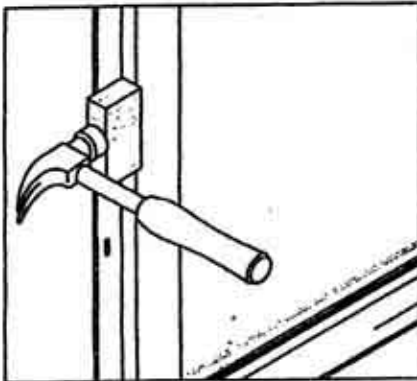
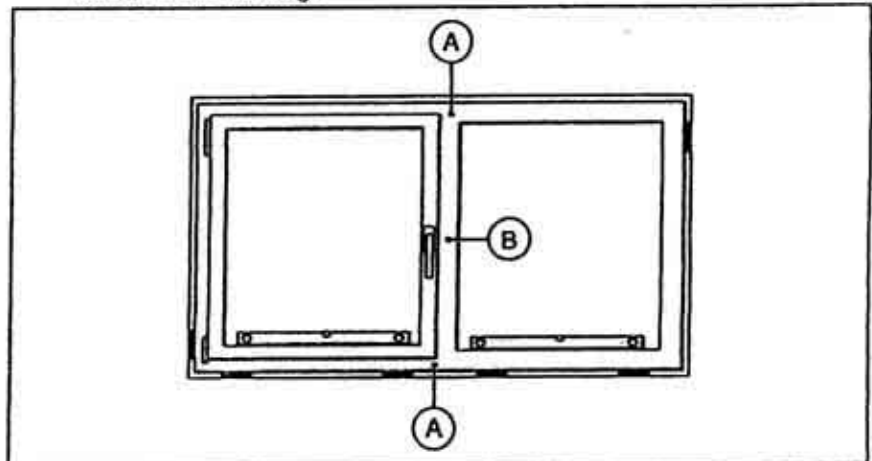

Figure 2-12. How to straighten a bowed frame
Figure 2-15. Where sashes sometimes bind
- 6.2 If the sash hardware binds at the top of the lock stile or at the bottom of the rail, the frame may not be level, or it may be out of square. See Fig. 2-15 Item A. Use a spirit level and make sure that the sill is level and that the mullions and jambs are square. If the frame is not level or square, adjust the thickness of the shims to make it level and square.
- 6.3 If the sash hardware binds at the midpoint either the sash or the mullion became bowed during handling or installation. See Fig. 2-15 Item B. Use a straight edge and make sure that the sash and the mullion are not bowed. If either the sash or the mullion are bowed, make them straight as shown in Fig. 2-12.